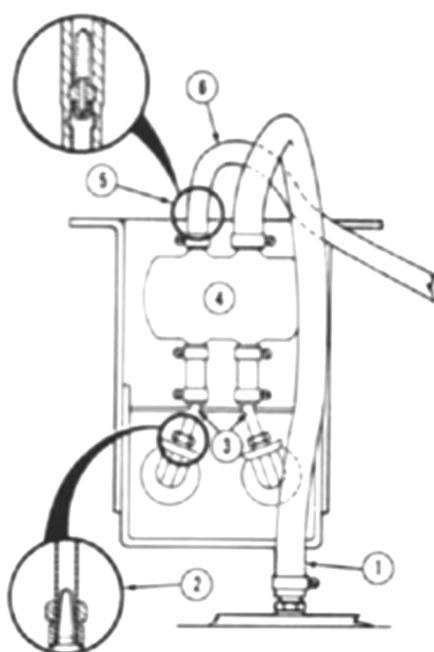
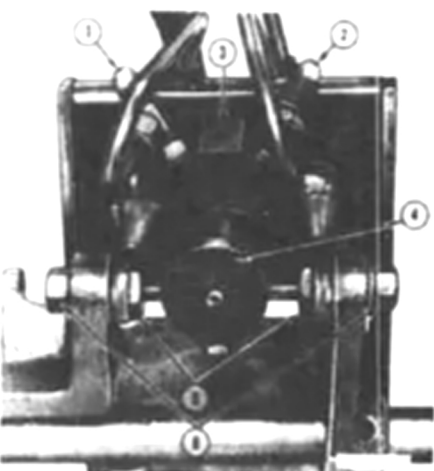
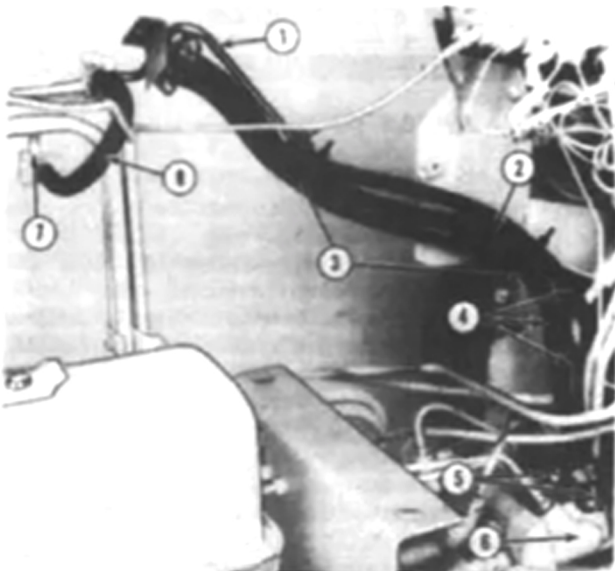

Fig. 152 - Reservoir (4) was added to brake keep fill system on later production models.
Fig. 153 - View of brake pedal adjusting bolts and equalizer. Refer to text.
Fig. 151 - Hydraulic brake keep fill system used on early production models.
Brakes on all models are self equalizing hydraulic actuated wet type single disc brakes. Brakes are located on the differential output shafts (planetary drive shafts) and are accessible after removing final drive units as outlined in paragraph 117. Return hydraulic fluid from the oil cooler maintains a full master cylinder directly from a tee in the return line on early models (Fig. 151). On later models, a reservoir was added to the keep fill system (Fig. 152). Brake operation can be accomplished with engine inoperative because of the keep fill line or reservoir which keeps the master cylinders filled. Also in the brake system is an equalizer valve (3—Fig. 153). This valve permits equal
To adjust the brake pedal maximum travel, refer to Fig. 153 and proceed as follows: Loosen locknuts (6) and rotate the eccentric bolts (5) to obtain the correct pedal free height from top of brake pedal to the foot plate. Then, retighten the locknuts. Correct pedal free height for Model 684 with S/N B001150 and later, Model 784 with S/N B001280 and later, Model Hydro 84 with S/N B000720 and later and all Model 884 tractors is 8 1/4 inches. Pedal free height for all models with prior serial numbers should be set at 6 inches.
Between the oil cooler return line and the keep fill line (early models) or reservoir (later models), there is an orifice screen located in the hose. Refer to Figs. 151 and 152. When installing this orifice screen, install screen towards oil cooler. This orifice provides the proper amount of fluid to the master cylinders. There is also a filter screen located in the lines going into each master cylinder.